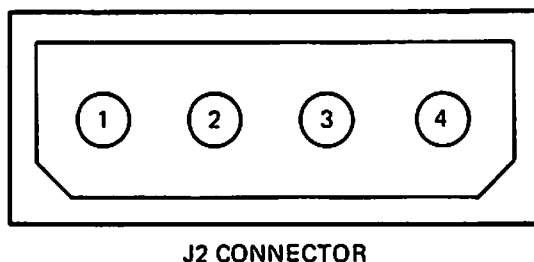

Figure 2-5. J2 Connector Outline
2.3.2.2 Power Connector. The DC power connector (J2) is mounted opposite to J1 on the component side of the PWB. Power connector J2 is a 4-pin AMP P/N 1-480426-0. The recommended mating connector for P2 is AMP P/N 1-480424-0 that uses AMP pins P/N 60619-1. The recommended wire size is No. 18 AWG. Figure 2-5 shows the pin-numbering sequence of J2. The +5V and +12V power returns are tied together and connected to the chassis at the disk drive.